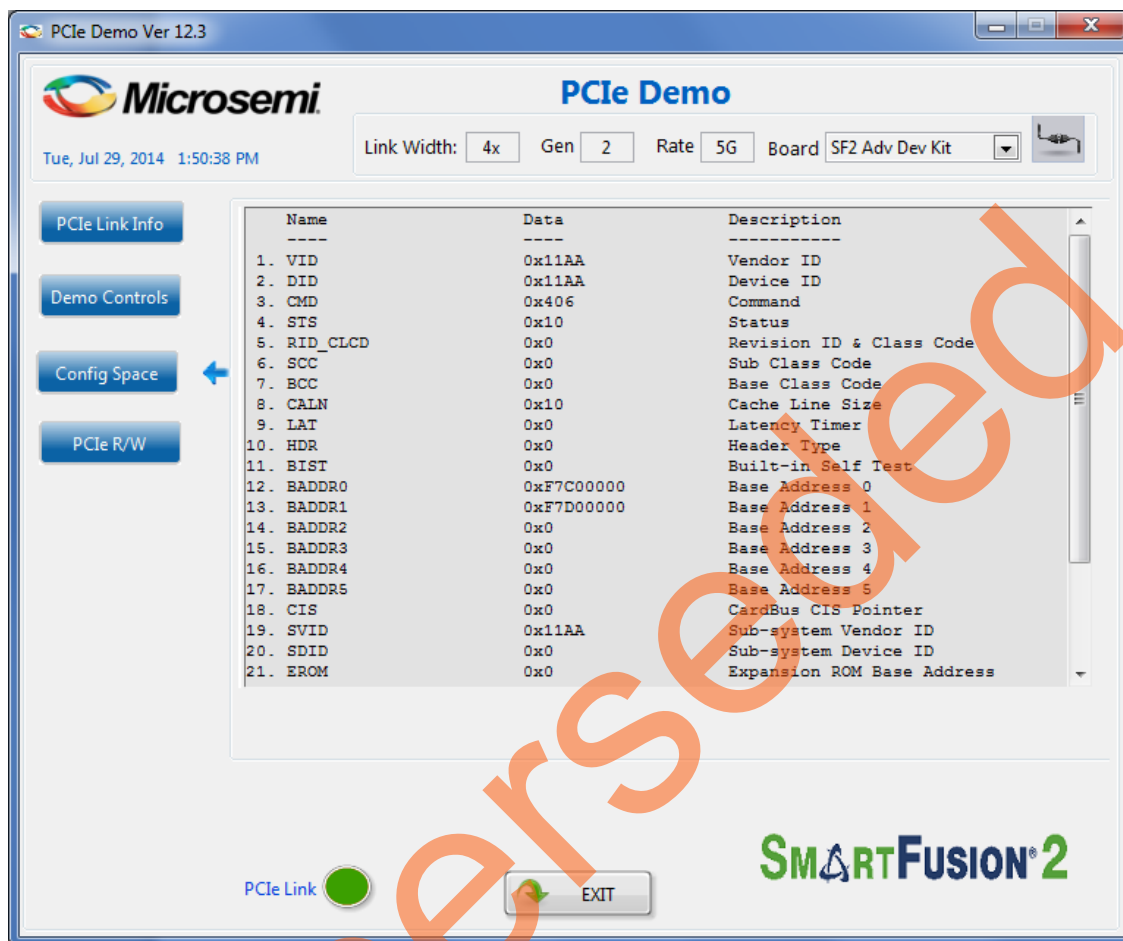

Figure 28 • Configuration Space
13. Click **Config Space** to read details about the PCIe configuration space. Figure 28 shows the PCIe configuration space.